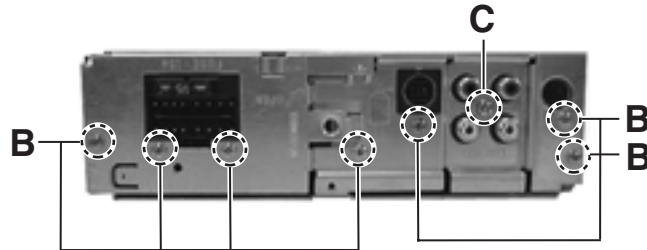

Fig. 5
■ **Removing the rear panel (See Fig.5 )**